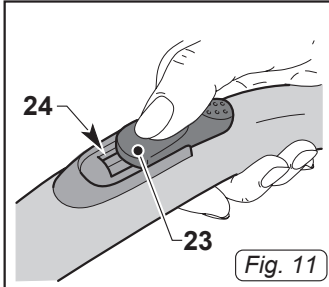

Fig. 11
For models equipped with ergonomic handle is possible to adjust the suction force, by acting the selector (23 Fig.11).
By opening the window (24 Fig.11) you get a lower suction force.
*For models equipped with ergonomic handle it is possible to adjust the suction force acting the nut (23 Fig.11).*
*By opening the little window (24 Fig.11) you get a lower suction force.*